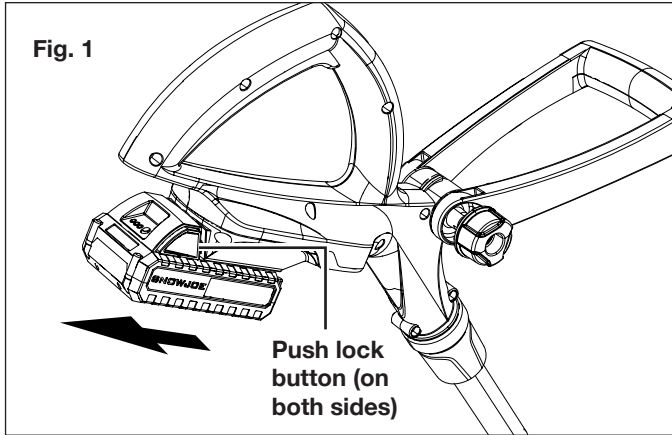

Fig. 1
1. Press the push lock buttons on the battery to pull the battery pack out of the equipment (Fig. 1).